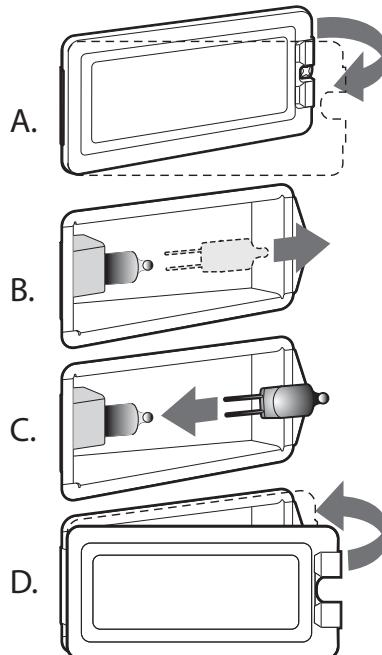

Figure 34: Bulb Replacement
3. Slide the tip of a flat blade screw driver between the fixing clip and the lamp housing (Figure 34, A).
6. Remove the bulb by grasping and sliding the bulb straight back until the two prongs have cleared the ceramic holder (Figure 34, B).
8. Press down to seat the bulb (Figure 34, C).
9. Slide the protective lens into the holder clip and push the other end until the fixing clip snaps back into the housing (Figure 34, D).